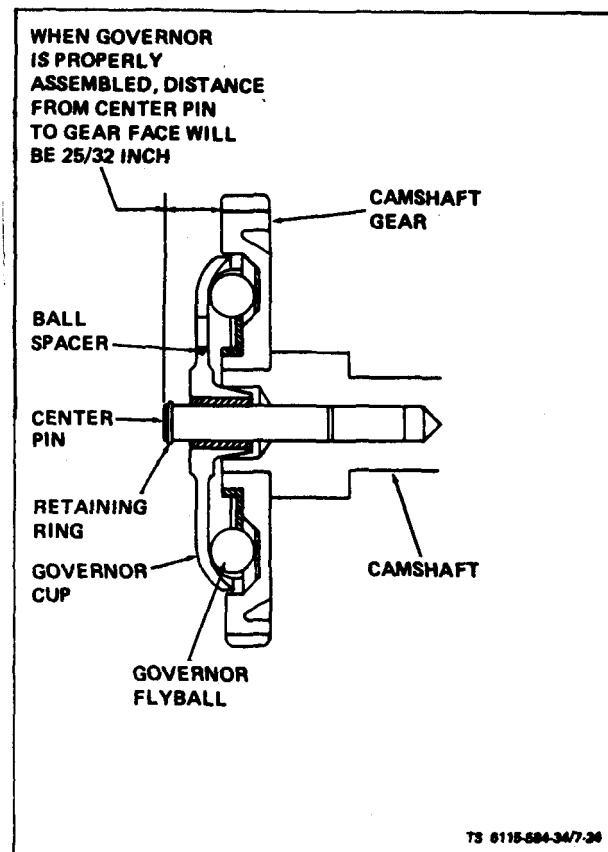

Figure 7-24. Governor Cup Assembly
a. Remove (see figure 7-24). On ASK equipped generator refer to Operation and Organizational Maintenance Manual and remove ASK cover assembly. Remove retaining ring from camshaft center pin and slide cup off. Be sure to catch the ten flyballs that will fall out when cup is removed.
b. Repair. Replace any flyballs that have flat spots or grooves. Replace cup if race surface is grooved or rough. The governor cup must be a free spinning fit on camshaft center pin, but should be replaced if excessively loose or wobbly. Check distance the center pin extends from the camshaft gear, this distance must be $25/32$ inch to give proper travel distance for the cup (see figure 7-24). If it is less, the engine may race; if more, the cup will not hold the balls properly. If distance is too great, drive or press center pin in. If it is too small, replace pin; it cannot be removed without damaging the surface. If aluminum ball spacer openings are badly worn, replace ball spacer. (Camshaft must be removed for this.)